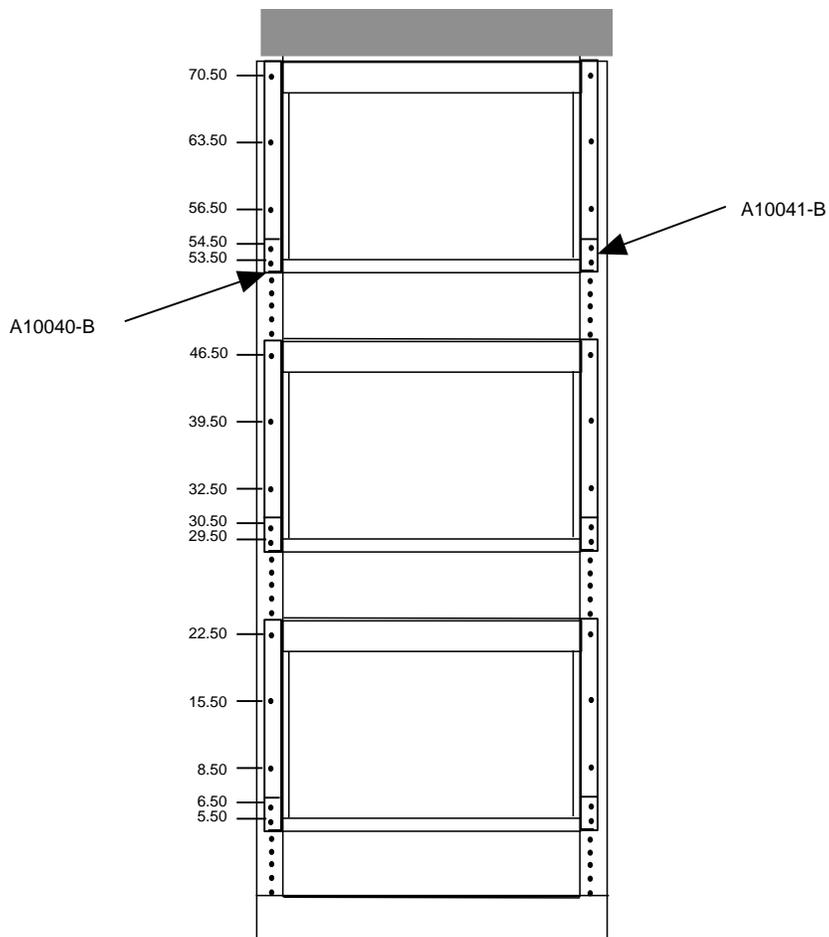

Figure 2-9. Mounting Locations on the Common ESS Frame
2. Locate the two support brackets (A10040-B and A10041-B). Attach them to the frame as shown in Figure 2-9 beginning with the lowest frame location. Secure them with two #12 screws for each bracket.